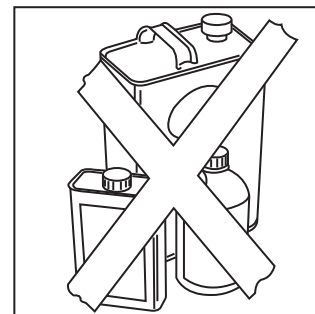

Fig. 3 - NO combustible materials near furnace
- Keep the area around your furnace clear and free of combustible materials, gasoline, and other flammable liquids and vapors. (See Fig. 3.)